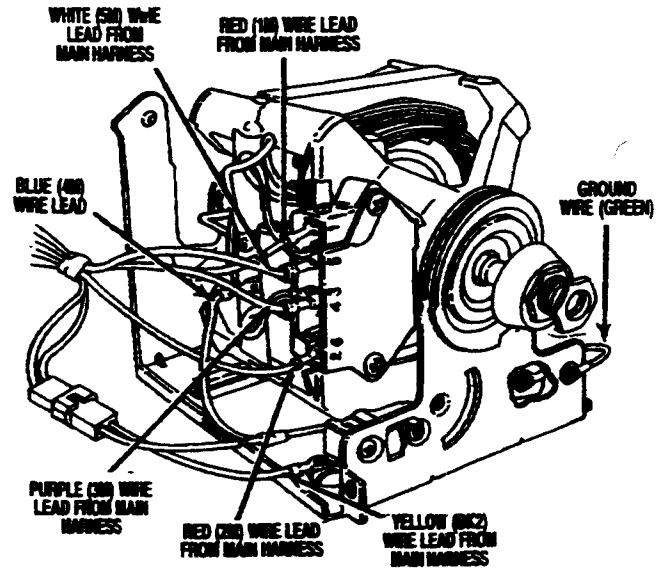

FIGURE 5
1. Connect the blue (4M) wire lead from the broken belt switch to the vacant terminal located on the back of the overload protector of the motor switch. See Figure 5.
2. Connect the red (1M) wire lead to the 1/4" terminal marked "1" on the motor switch. See Figure 5.
3. Connect the red (2M) wire lead to the 1/4" terminal marked "2" on the motor switch. See Figure 5.
4. Connect the yellow (BK2) wire lead to the vacant terminal on the broken belt switch. See Figure 5.
9. Connect the white (5M) wire lead onto the 1/8" terminal marked "5" on the motor switch. See Figure 5.
10. Connect the purple (3M) wire lead onto the 1/8" terminal marked "3" on the motor switch. See Figure 5.
11. Reconnect ground wire to motor. See Figure 5.